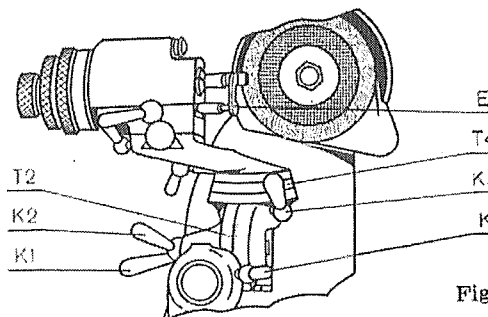

Fig. 6
3. Set cutter with aligning gauge E, clamp cutter in position, return aligning gauge E. (see Fig. 6)